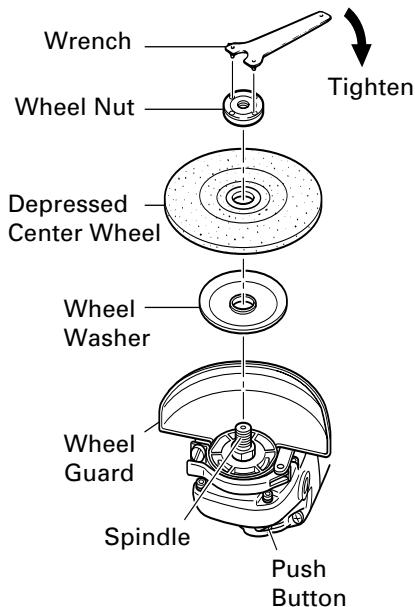

Fig. 5
Make sure that the push button is disengaged by pushing push button two or three times before turning on the grinder. (Fig. 5)
- (1) Turn the disc grinder upsidedown so that the spindle is facing upward.
- (2) Align the oval-shaped indentation of the wheel washer with the notched part of the spindle, then attach them.
- (3) Fit the protuberance of the depressed center wheel onto the wheel washer.
- (4) Screw the wheel nut onto the spindle.
- (5) While pushing the push button with one hand, lock the spindle by turning the depressed center wheel slowly with the other hand.
- Tighten the wheel nut by using the supplied wrench as shown in Fig. 5.